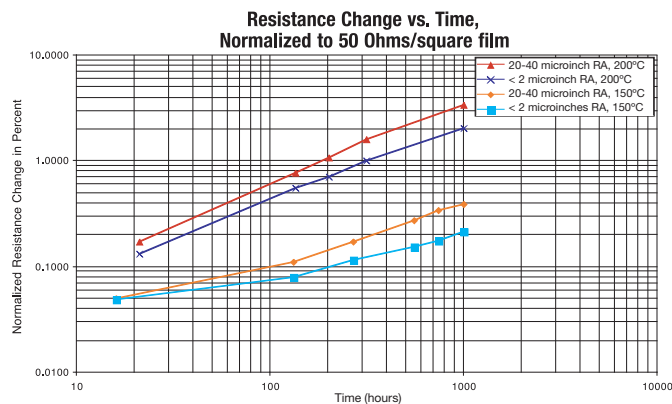

Figure 5: Normalized percent resistance change of TaN oven-aged resistors
**Figure 5** shows the average measured change in resistance of four groups of ten each Ta2N thin-film resistors placed in an oven – no applied power to the resistors – and aged for 1000 hours. The latter number of hours appears to be a de facto industry specification, although the governing military spec, MIL-PRF-55342 calls out 2000 hours. Measurements were made at two different temperatures and were repeated on AlN supplied by different vendors (not shown), and on substrates from the same vendor but having different average surface roughnesses. In general, resistance change during aging,  $\Delta R/R$  when expressed as a percentage of initial resistance, followed the formula predicted by theory,1
The top curve shows the raw data; average resistance change was about 4.9%. The lower curve shows the data normalized to a 50-ohms/square resistivity, i.e., the resistance change was scaled by the ratio of actual film resistivity, 72 ohms/square, to 50 ohms/square using equation (1). Since the substrate used had an average surface roughness of 20-40 microinches, the lower curve should be comparable to the 200°C oven-aged result for this substrate shown in Figure 5.